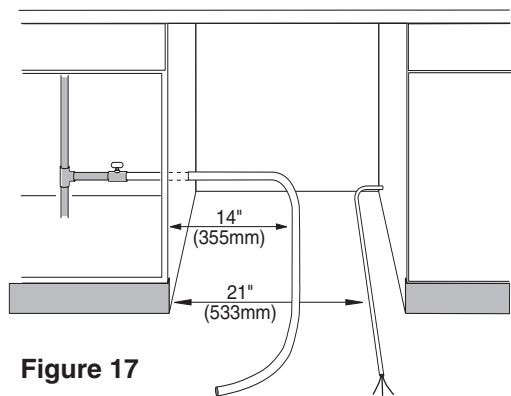

Figure 17
- 2 Position the dishwasher close enough to the enclosure so that you can run the dishwasher drain hose to the under sink drain connection. Make certain that the hot water supply line and the electrical supply cable are in their channels under the dishwasher base, as shown in **Figure 17**.